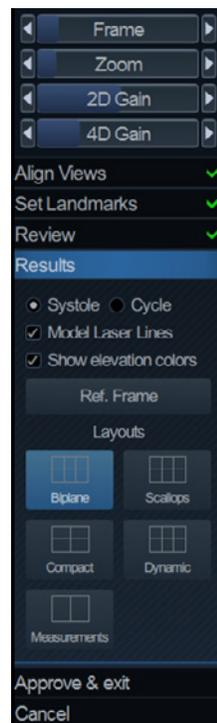
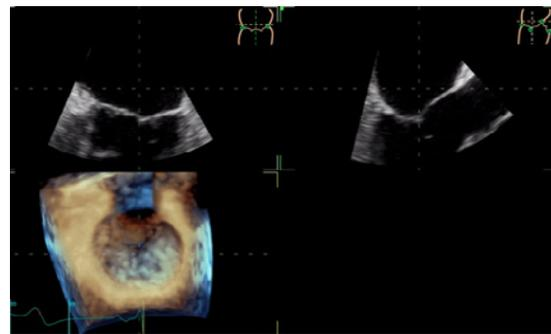

Figure 1. Stages
Figure 2. Alignment stage
The workflow is divided into stages (see Figure 1) accessible both through the touch panel as well as on the main screen. When entering the tool, the first step is to adjust 2D gain, 4D gain and zoom if needed. These controls are available throughout the remaining stages to always ensure optimal image quality. Then one can set/adjust the End Systolic (ES) and End Diastolic (ED) time events if needed. This is followed by an **Alignment** stage (see Figure 2) to ensure a standardized and expected view is obtained where the vertical axis crosses through the center of the MV, while the horizontal axis is parallel to the mitral valve.